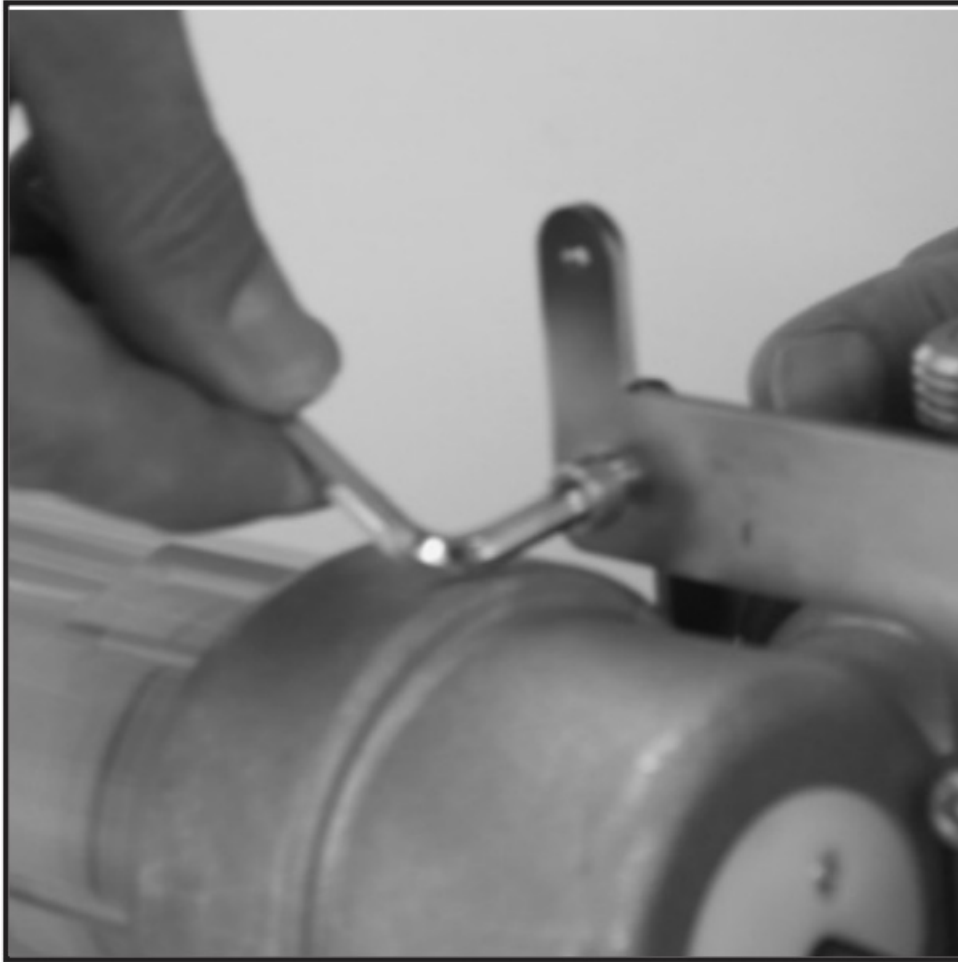

Fig. 4
- c. Release the assembly bracket and remove it (see Fig. 4).